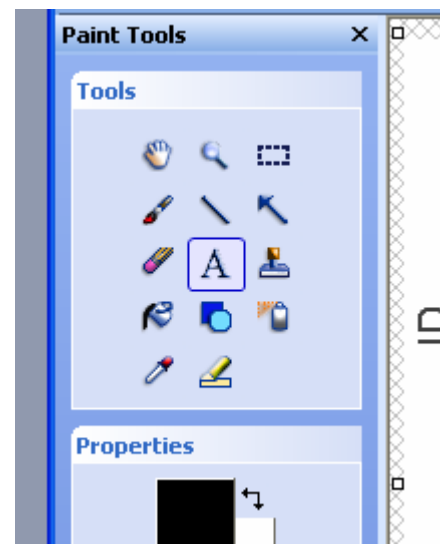

Figure 76: Activate adding text function
1. Click on the “A” button to activate adding text function, see Figure 76.